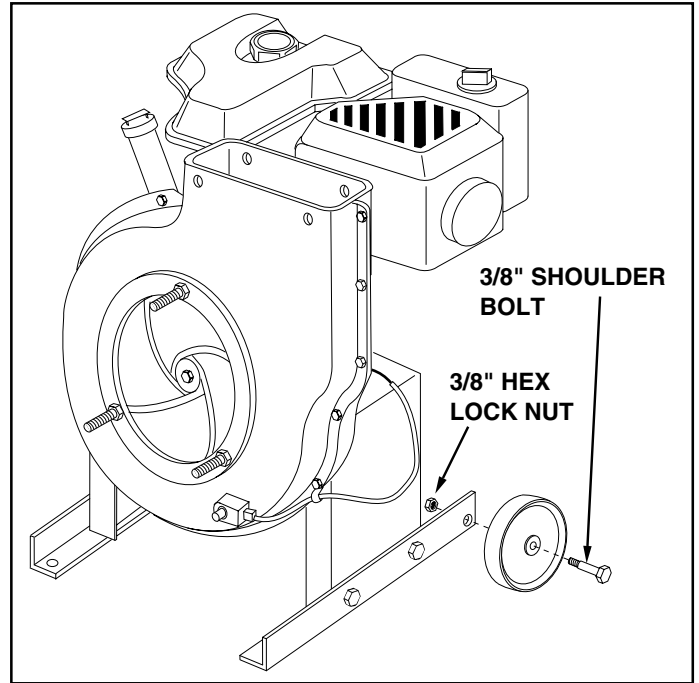

FIGURE 14
28. Assemble a plastic wheel to each engine mount bracket using a 3/8" shoulder bolt and 3/8" hex lock nut. See Figure 14.